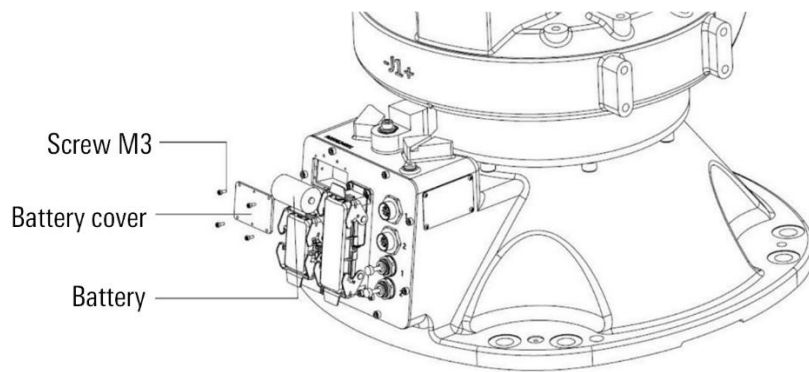
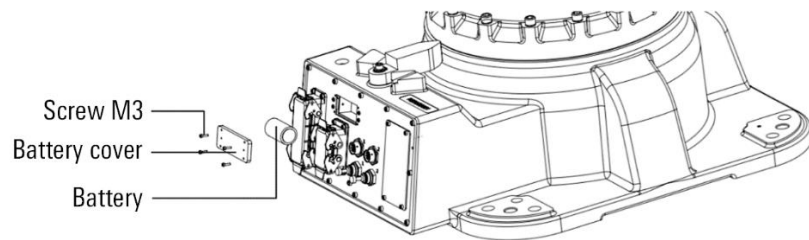

Figure 12-9 AIR50-2260/AIR80-2260/AIR35-2700/AIR20-3100 battery replacement
Figure 12-10 AIR50-2700/AIR80-2560 battery replacement
- Step3. Remove the battery cover on the electrical mounting plate of manipulator as shown in Figure 12-9 or Figure 12-10.